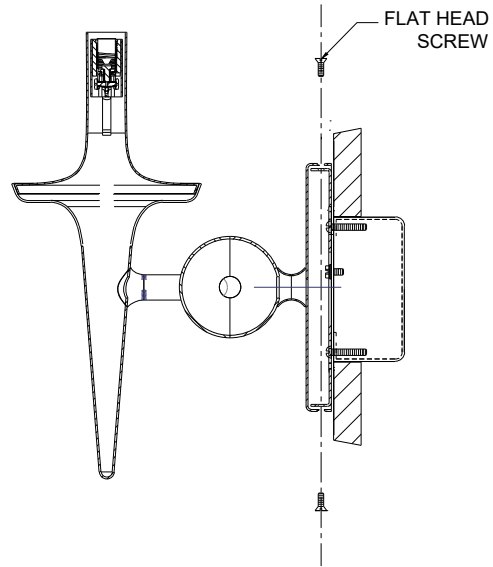

FIGURE-03
5. Attach the fixture's backplate to the mounting ring with wing and secure it with flathead screws (See FIGURE-03)